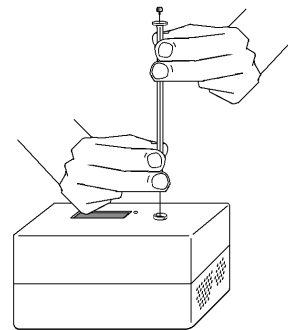

Figure 3
b. To insert the needle of the syringe into the injection port of the Mini GC, hold the syringe with one hand and steady the needle with your other hand. Insert the needle into the injection port until the needle stop is fully seated, as shown in Figure 3. If the needle sticks, rotate the syringe slightly (and gently!) while inserting the needle. Don't force the needle into the port. If necessary, remove the syringe needle from the injection port and then reinsert it. Do not depress the plunger yet.